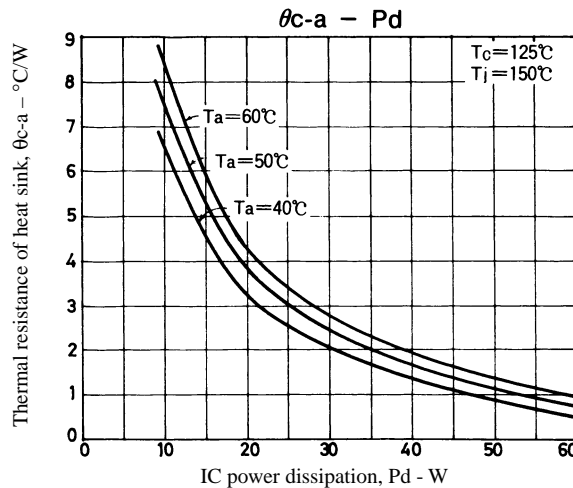

Figure 3. STK 4036V  $\theta_{c-a} - P_d$
Fig.3 shows the relation between  $P_d$  and  $\theta_{c-a}$  given from (1) and (3) with  $T_a$  as a parameter.
The thermal resistance of a heat sink is obtained from Fig.3.